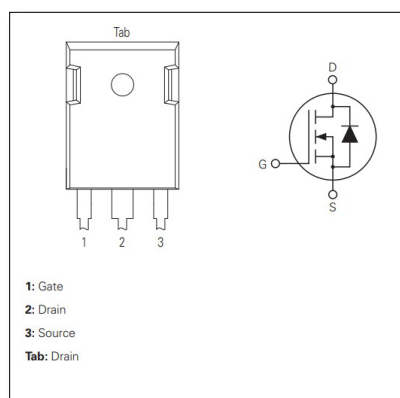

Figure 2. Pinout Diagram of TO-247 and Circuit Symbol of an N-channel Enhancement Mode MOSFET
- **Pinout Diagram** provides a visual representation of the device’s physical layout including circuit symbol as highlighted in **Figure 2**.